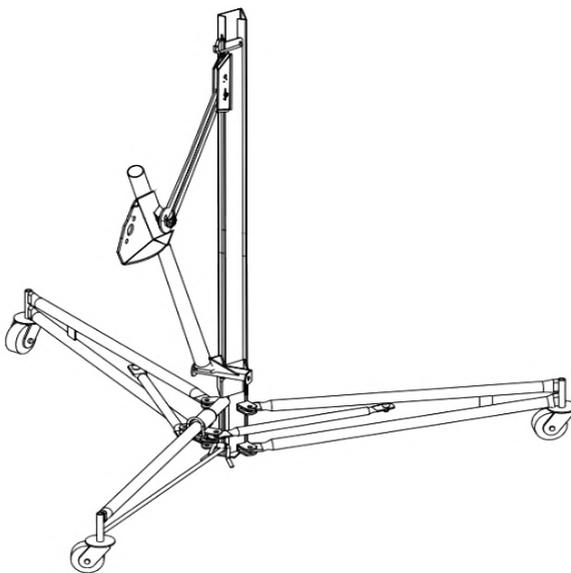

Figure 20
- The final assembly should look like as shown in Fig.20.